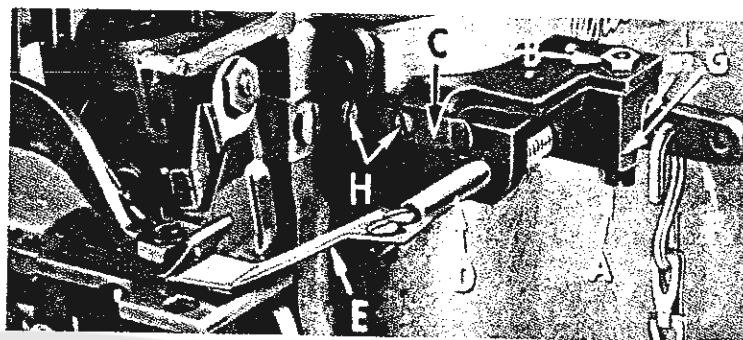
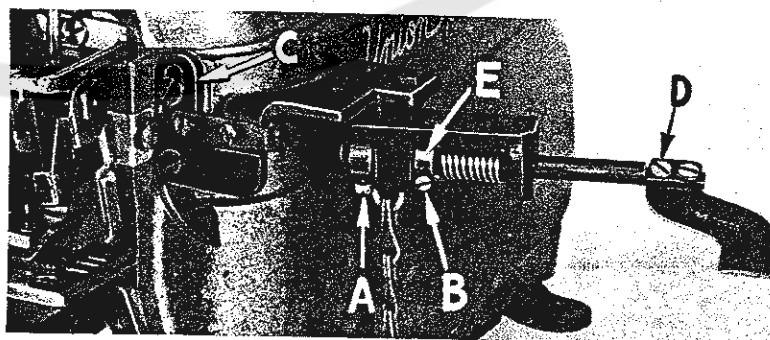

Fig. 18
Fig. 19
Styles 39500 FT, FU, GD, GL and GT are equipped with an auxiliary pressure plate assembly (Fig. 18) which operates in conjunction with the presser foot.
1. With assembly in operating position, check to be sure latch spring (C, Fig. 18) is in notch of shaft bracket (G) when shaft bracket is up against the front of bracket (C, Fig. 19). If adjustment is necessary loosen screws (H, Fig. 18) and position latch spring.
2. Swing assembly out of operating position and see that it hinges freely on its pivot. Adjustment is made for screw (A, Fig. 18) and nut (B).
- Adjust the shaft (D) laterally so that the pressure plate (E) locates centrally over the differential feed dog. Loosen screws (A and B, Fig. 19) to do this. Making this adjustment will release the spring tension on the pressure plate. To re-gain the tension, swing the pressure plate out and turn the shaft (D, Fig. 18) in either direction about 180° from operating position and tighten screw (B, Fig. 19).
- With the differential feed dog down below the surface of the throat plate, and the pressure plate resting on the throat plate with the maximum pressure the spring will allow, there should be about 1/32 inch clearance between the operating lever (F, Fig. 18) and the hinge block (G). To make this adjustment loosen screw (A, Fig. 19) and move lever to desired position.
- With the differential feed dog at its highest point of travel, raise or lower the mounting bracket (C, Fig. 19) so that the auxiliary pressure plate is parallel with feed dog teeth.
- Adjust the pressure plate in or out towards presser foot, maintaining it parallel with the feed dog, so that there is sufficient clearance between the end of plate and presser foot to permit free passage of the thickest part of the top ply being sewn. Use screws (D, Fig. 19) for this adjustment.
- There are two spring anchoring holes in collar (E, Fig. 19) which may be used for increasing or decreasing spring tension on auxiliary pressure plate.
- A chain is provided for raising the auxiliary pressure plate in conjunction with the presser foot. Couple this chain from the operating lever (F, Fig. 18) to the knee press rod that is part of the knee press assembly used to lift the presser foot. The presser foot should be raised before the pressure plate and the chain is normally attached to the pressure plate operating lever at the side hole.